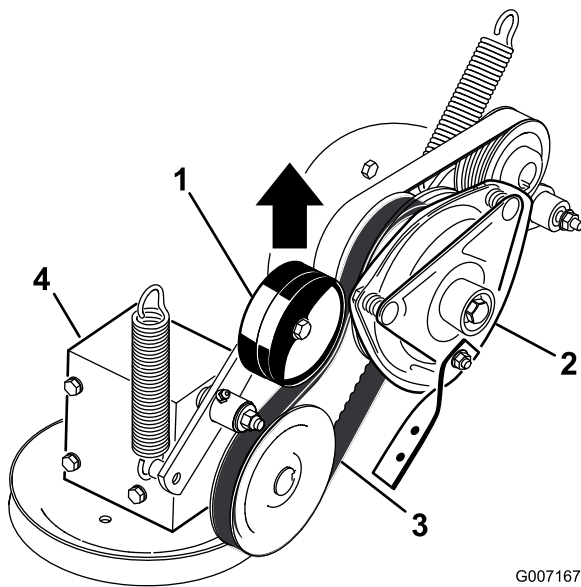

Figure 58
5. Pull up on the spring loaded idler pulley for the PTO drive belt and remove the belt from the clutch pulley (Figure 58).
17. Pull up on the spring loaded idler for the PTO drive belt and install it onto the clutch pulley (Figure 58).